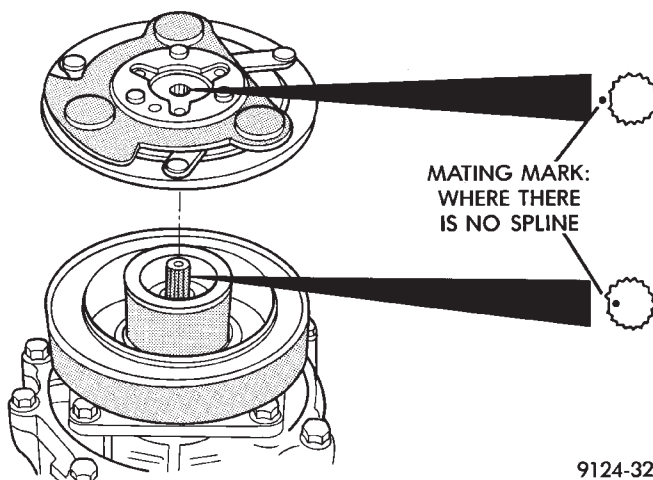

Fig. 3 Aligning Clutch Plate Splines
(5) Install rotor-pulley assembly retaining snap ring (bevel side outward) with Snap Ring Pliers C-4574. Press the snap ring to make sure it is properly seated in the groove.
(6) If the original armature plate assembly and rotor-pulley assembly are to be reused, the old shim(s) can be used. If not, place a trial stack of shims, 2.54 mm (0.10 in.) thick, on the compressor shaft against the shoulder of the armature plate.
(7) Install armature plate to the compressor shaft. Note the machined mating splines (Fig. 3).